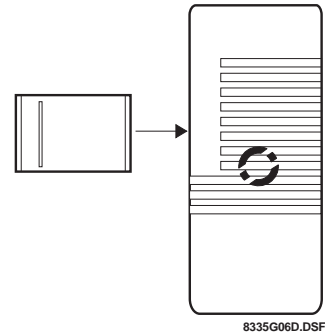

Figure 6. Inserting the Bayonet into the Siren
- 4) Insert the bayonet into the slot on the siren's left side until it locks into place (see Figure 6).